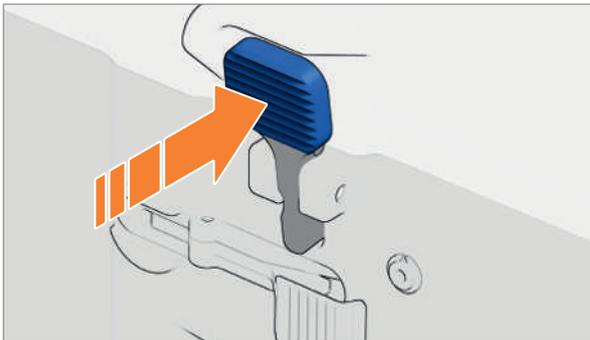
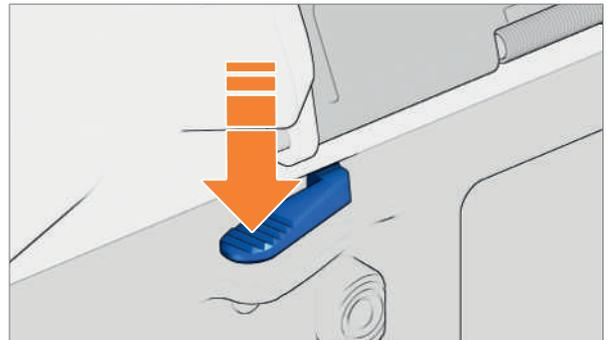

Fig. 20: Pressing left bolt catch/release
Fig. 21: Pressing right bolt catch/release
2. Push bolt catch lever (*Fig. 20*), (*Fig. 21*). The bolt group snaps forwards.